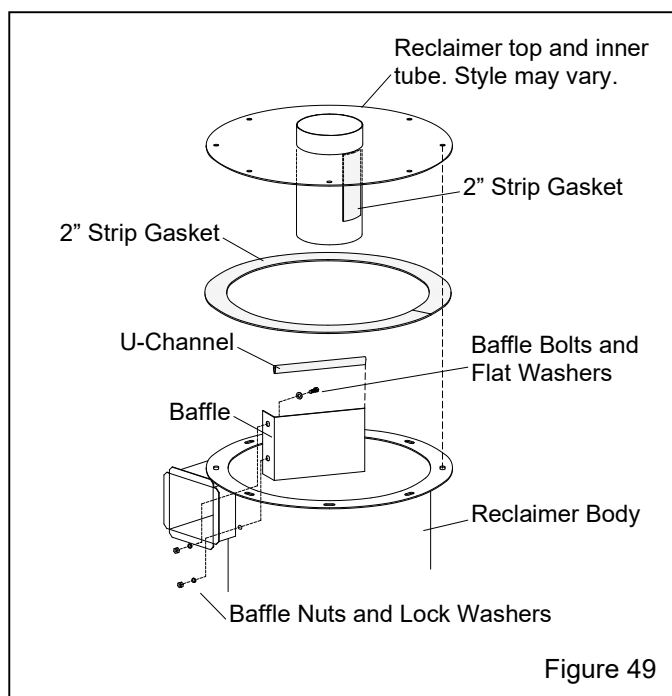

Figure 49
7.13 Removing or Replacing Reclaimer Inlet Baffle In Reclaimer with a Bolt-On Top – Figure 49